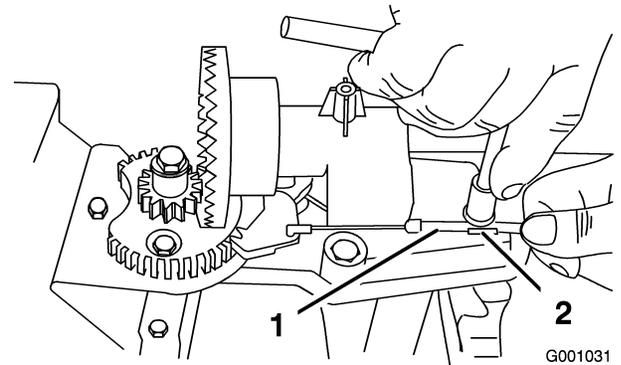
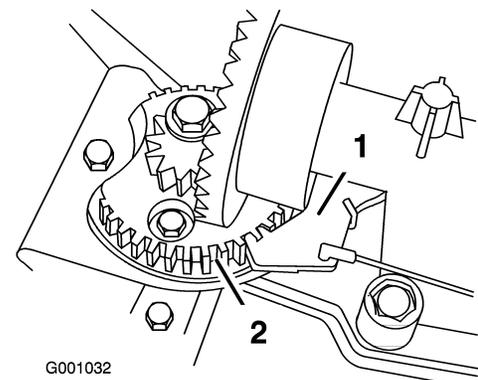

Figure 55
Figure 56
2. Loosen the bolt on the cable clamp (Figure 55).
3. Grasp the cable conduit and move it toward the front of the machine until the discharge chute latch fully engages the gear teeth (Figure 55 and Figure 56).
- Note:** The latch is spring loaded and will naturally move into the teeth of the gear (Figure 56).